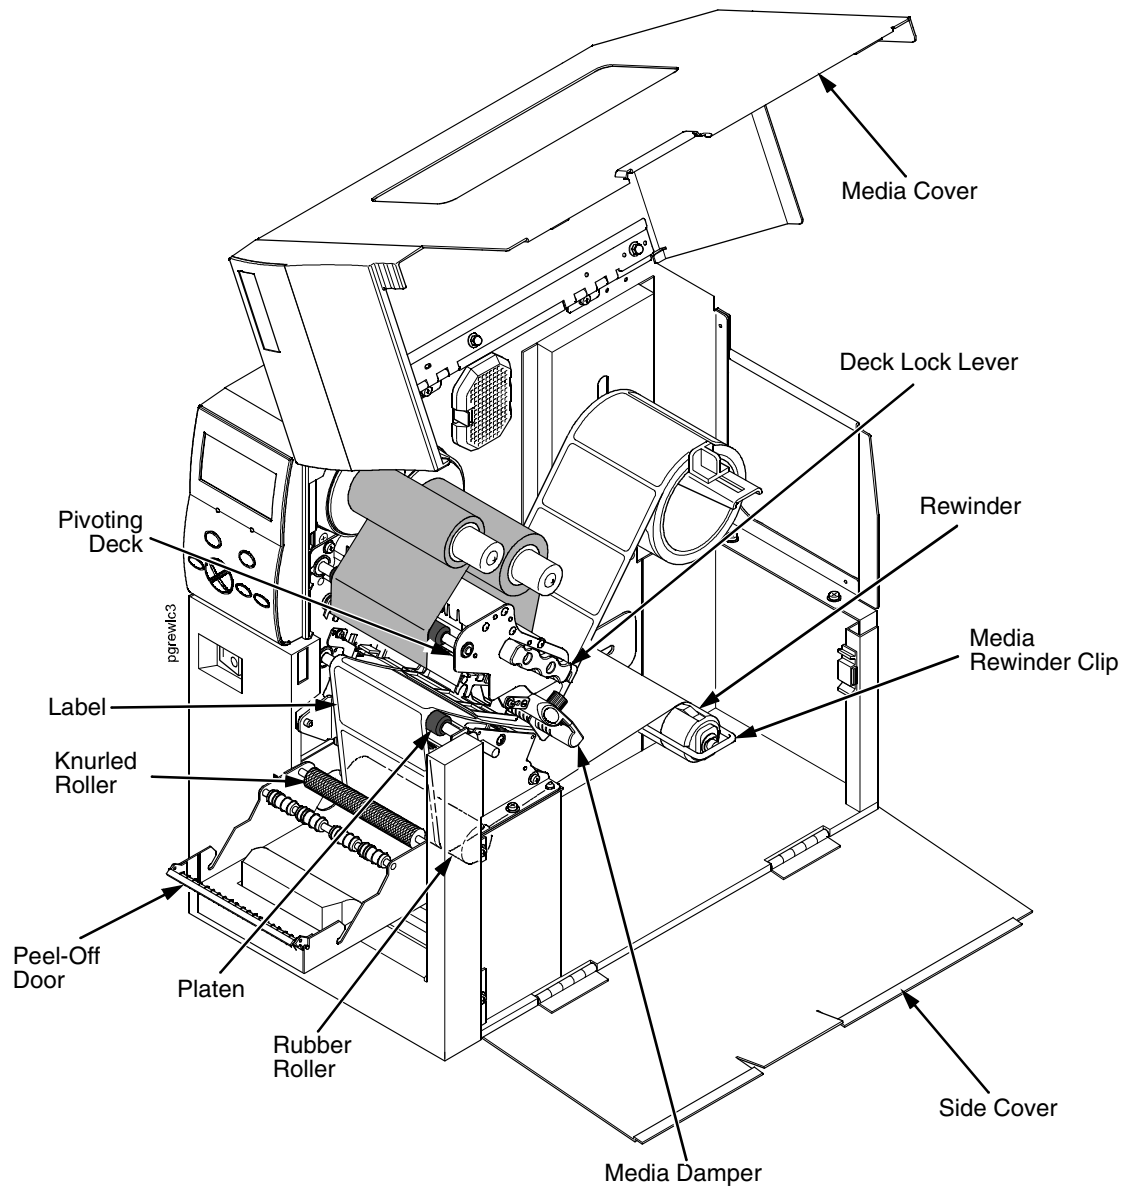
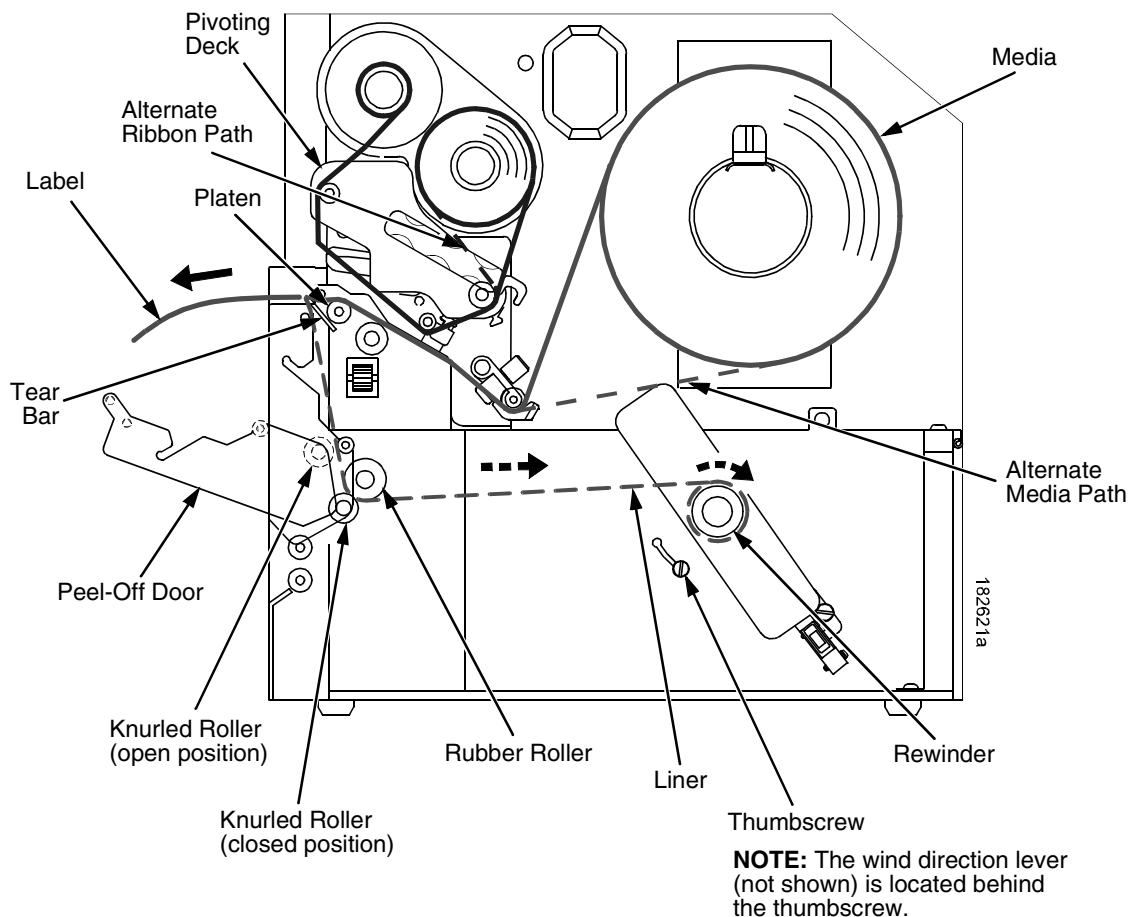

Figure 11. Loading Media on the Peel-Liner Rewinder
Figure 12. Peel-Liner Rewinder Media Path
6. Thread the media under the media damper, over the platen, and in between the knurled roller and the rubber roller. See Figure 11 and Figure 12.
10. If necessary, loosen the thumbscrew, pull it outward, position the wind direction lever in the lower position, and tighten the thumbscrew. See Figure 12.